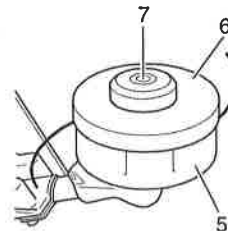

Fig. 3
- Check the cover (5), case (6) and other components for cracks or other damage. (Fig. 3)
- If there is a hole in the bottom (7) of the button, change the new parts immediately. (Fig. 3)